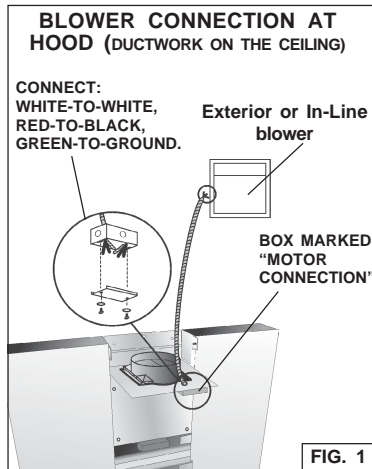

FIG. 1
1. Run conductors (2-wire plus ground) from the Exterior or In-Line Blower to the hood's wiring box marked "motor connection". See Fig. 1 if the ductwork is placed on the ceiling; see Fig. 2 if the ductwork is placed on the wall.
2. Remove the cover from the wiring box. Fig. 1 or 2.
3. Secure the conduit to the wiring box through a conduit connector. Fig.1 or 2
4. Make electrical connections at the hood. Connect white-to-white, red-to-black and green-to-ground. Fig.1 or 2.